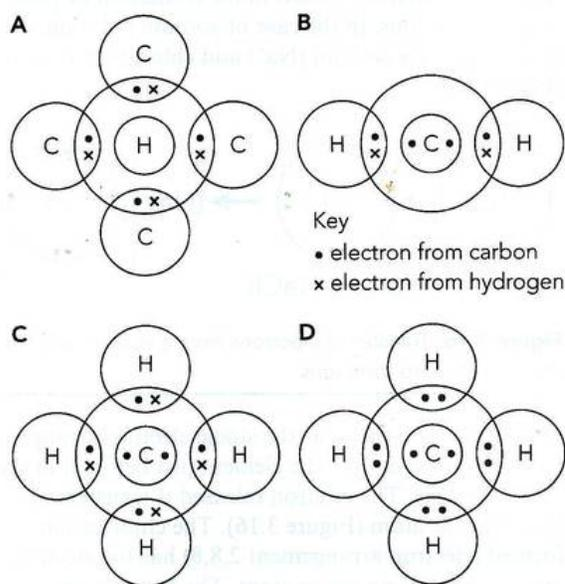

Figure 3.13: The possible bonding in methane.
- 4 Covalent bonding involves electrons being shared between the atoms bonded together. Methane is made up of covalently bonded molecules. Which of the diagrams A–D in Figure 3.13 represents the bonding in methane?